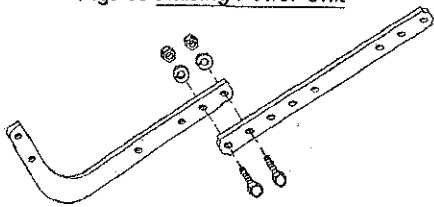

Fig. 16 Joining Door Arms
8. Join door arms (Fig. 16).
- Overlap arms by two (2) holes.